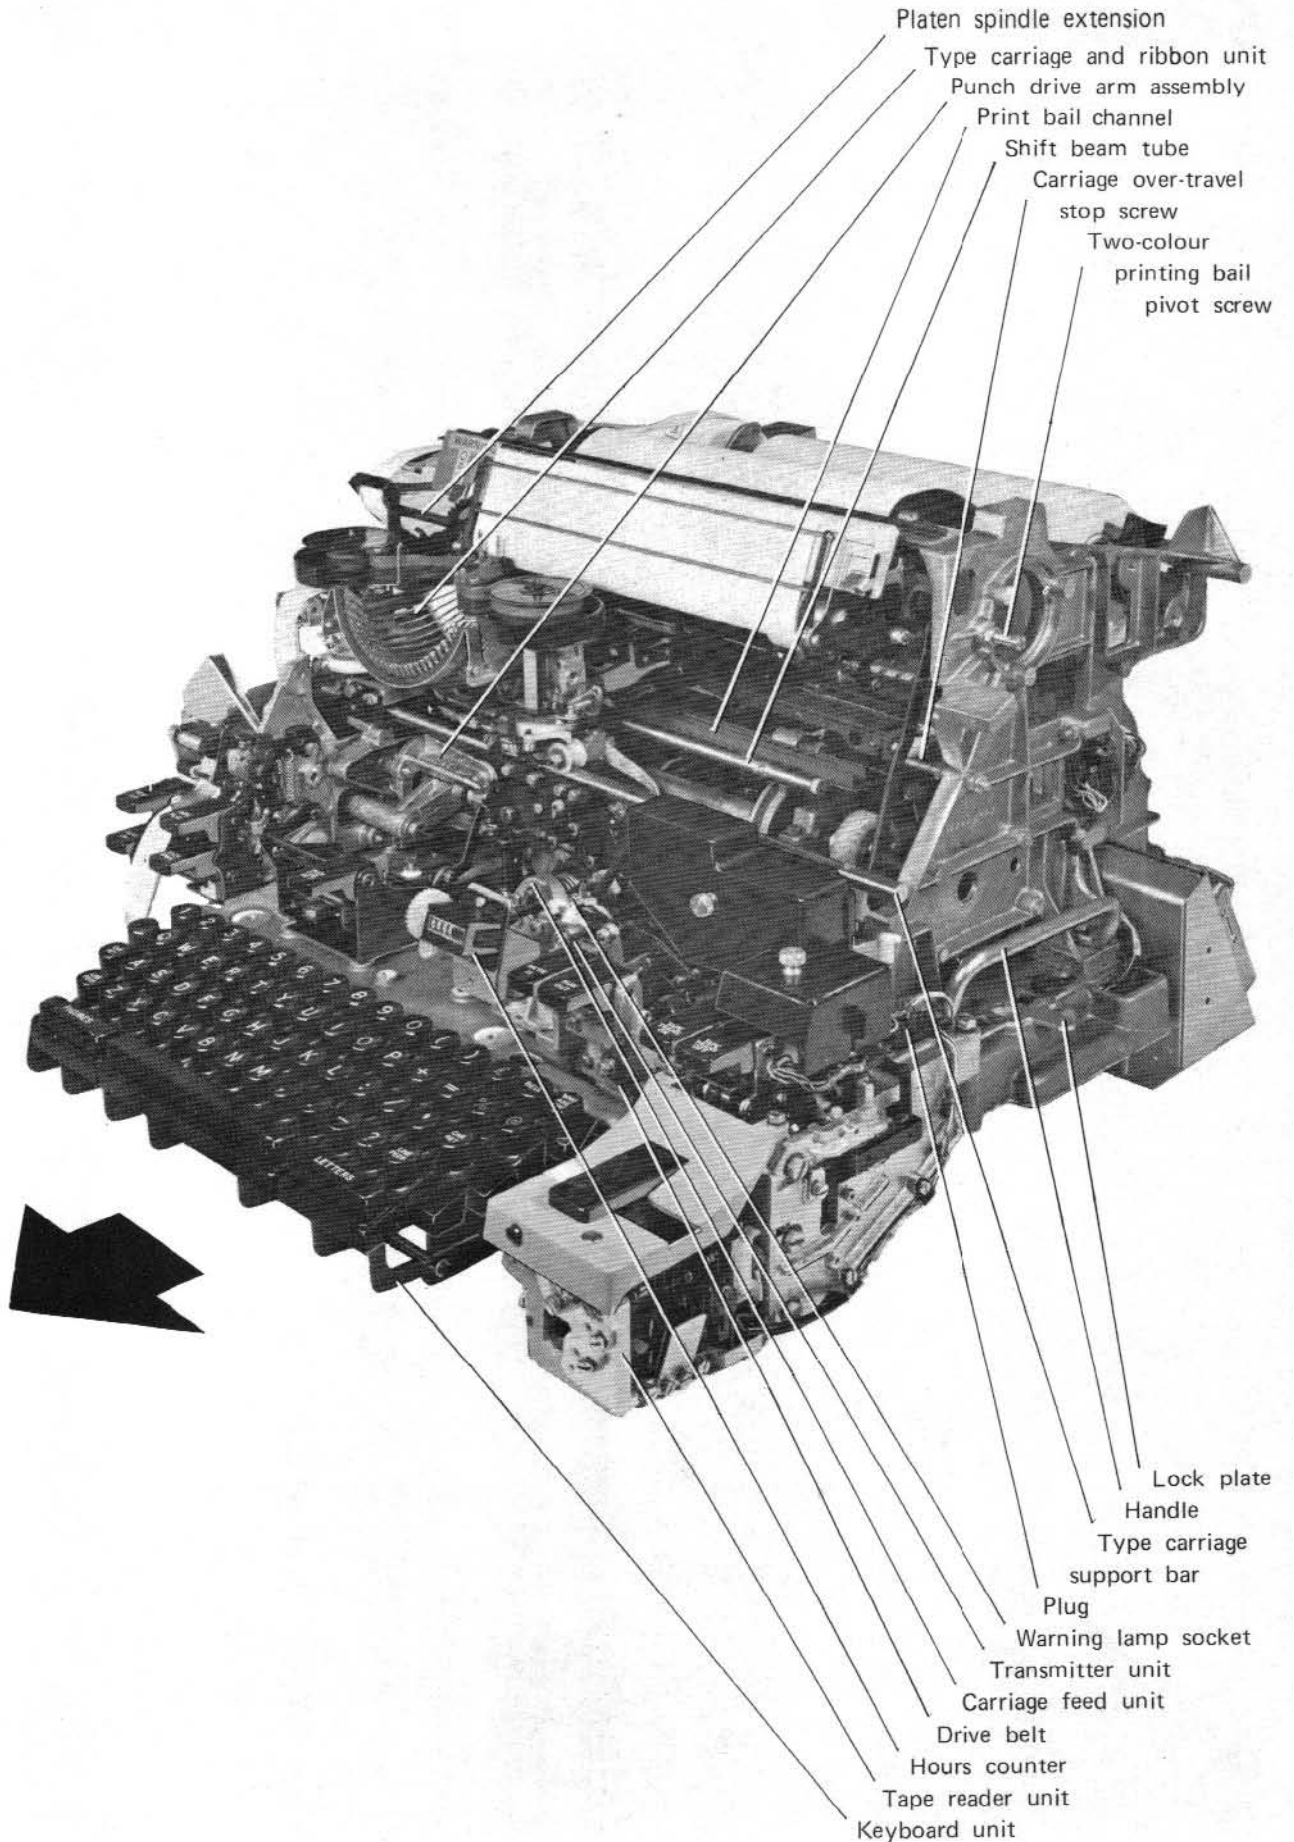

Fig. 5.4 GENERAL VIEW SHOWING TAPE READER UNIT
18. TRANSMITTER UNIT Fig. 5.4, 5.14
19. TYPE CARRIAGE AND RIBBON UNIT Fig. 5.4, 5.8, 5.10, 5.12, 5.14
20. TWO-COLOUR PRINTING BAIL Fig. 5.4, 5.7, 5.9
22. KEYBOARD UNIT Fig. 5.4, 5.6
23. PLATEN UNIT Fig. 5.4
24. TAPE READER UNIT Fig. 5.4, 5.32
25. TAPE PUNCH UNIT Fig. 5.4, 5.9